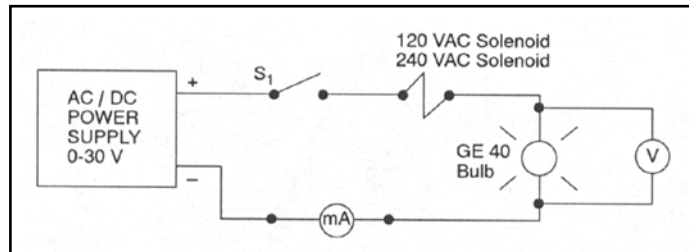

Fig. 3-8. Current in inductive DC and AC circuits. Courtesy of Delmar Learning.
24. Using the 240-VAC coil and the DC power supply, construct the circuit in *Figure 3-8*. Turn the power supply on and adjust voltage to 6 VDC. Close switch S_1 .
27. Connect the same circuit (See *Figure 3-8*) to the 60-Hz variable AC power supply. Turn the supply on and adjust to 6 VAC. Close switch S_1 . Note that the magnetic field is not strong enough to pull the core completely into the body of the solenoid. Manually push the core fully into the coil (against the springs). You will see the current drop when the core is fully inserted.